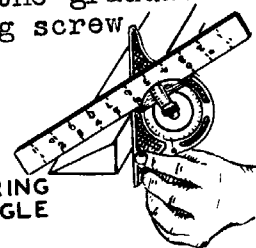

FIG. 10 MEASURING AN ANGLE
4. Place the base of the protractor against the side of the work and scribe lines as desired. (Fig.10).